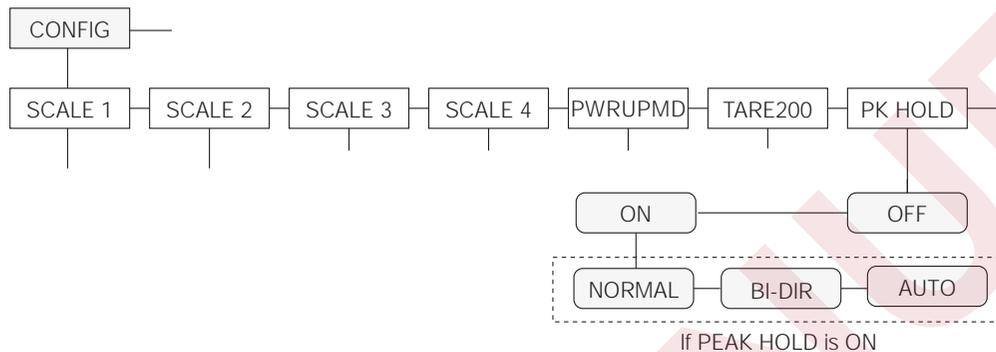

Figure 9-2. Peak Hold Submenu
- Set the PK HOLD parameter on and choose the peak hold mode (NORMAL BI-DIR, or AUTO). See Figure 9-2.